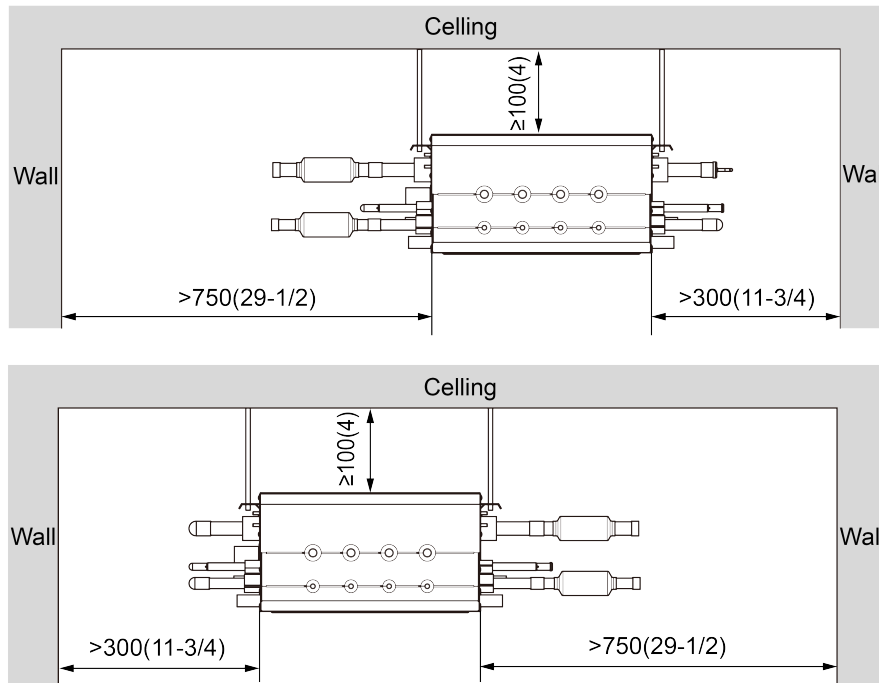

Fig.3.1
- (1) As there's noise during operation, the unit should be installed at the places where the noise won't affect your daily life, such as equipment room or corridor. Do not install the unit at the work or rest room or other places where the noise will affect your work or rest, such as bedroom, meeting room, ward, etc.
- (2) Avoid places where rainwater, damp air or the corrosive gas may enter, otherwise it may cause unit damage or electric shock.
- (3) Make sure the hanging parts can hold the weight of unit.
- (4) Water can be drained out from the drainage hose conveniently.
- (5) Connect either left or right side of converter to outdoor unit for piping according to installation space, as shown in the Fig.3.1, the space used for maintenance should be ensured.
- (6) Please keep the unit away from those positions where there's thermal source, inflammable gas and smog.
- (7) The unit is the cassette type (concealed type).
- (8) Indoor unit, outdoor unit, mode exchange box power cord and connection cord should be kept 1m (39-3/8inch) above away from TV and radio for preventing graphic interference and noise. (Even the distance is 1m (39-3/8inch), if there's strong electric wave, there's still noise).